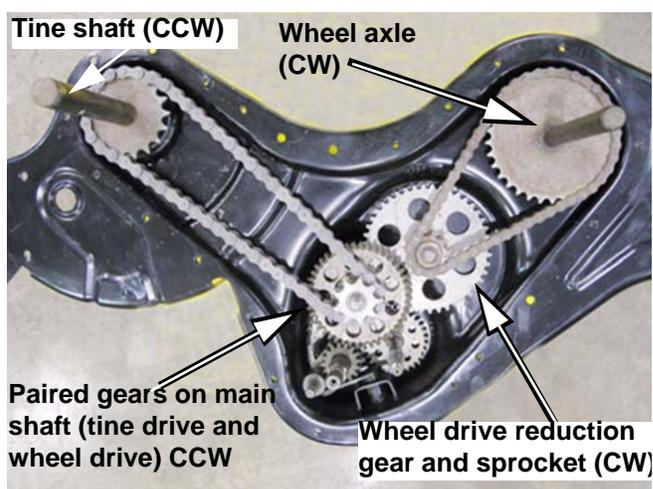

Figure 5.8
3. The upper paired gear on the main shaft turns a sprocket to drive the tines **C**ounter **C**lock **W**ise via chain. See Figure 5.8.